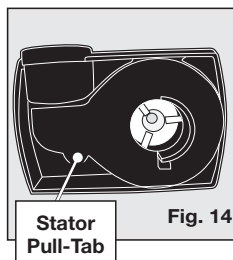

Fig. 14
- Next, remove the stator by placing your fingernail underneath the small lip located on the narrow side of teardrop-shaped stator (Fig. 14) and pull out to remove.